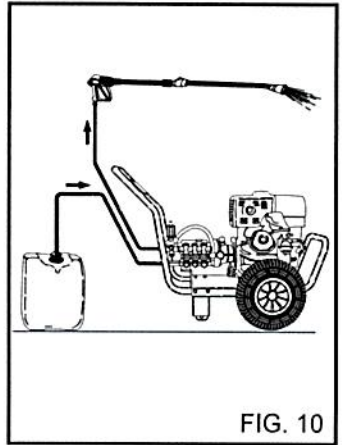

FIG. 10
1) After using with detergent, flush out the intake circuit; place the detergent suction hose (fig. 10) in a tank of clean water and let the pump run for 1 minute with the dosing tap turned fully on and the lance in detergent delivery condition.
4) After using with detergent, flush out the intake circuit; place the detergent suction hose (fig. 10) in a tank of clean water and let the pump run for 1 minute with the dosing tap turned fully on and the lance in detergent delivery condition.